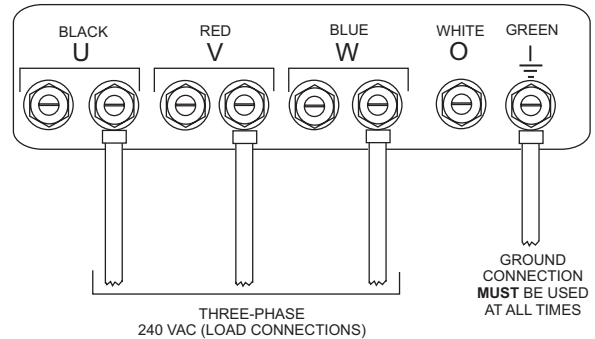

Figure 27. UVWO Terminal Lugs 3Ø-240/1Ø-139V Connections
2. Connect the load wires to the UVWO terminals as shown in Figure 27.